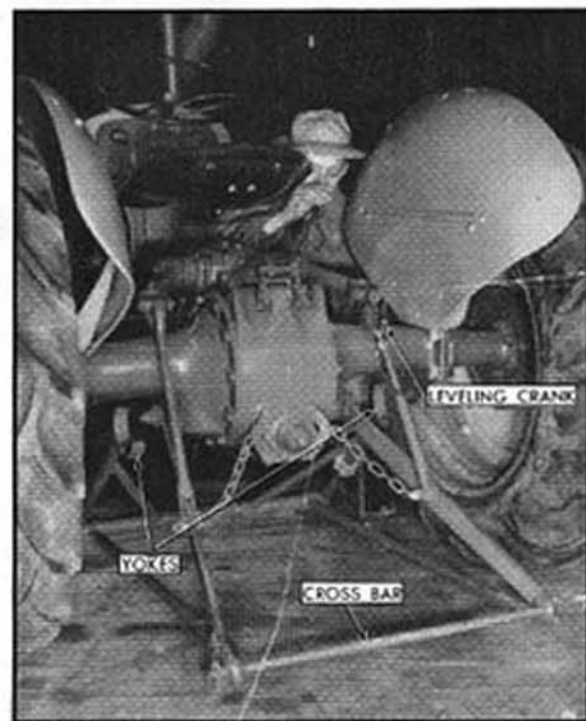

Figure 1
- Step 1. Slide the folded rear jack stand, with the yokes on top, under the tractor rear axle. See Figure 1.
- Step 2. Attach tractor lower links to jack cross bar and secure with linch pins. See Figure 1. Use the leveling crank to adjust the jack cross bar so that it is parallel to the rear axle.
- Step 4. Position the jack yokes under the axle as shown in Figure 1 and, at the same time, raise the jack with the Ford Hydraulic Touch Control lever until the yokes are firmly positioned under the axle.